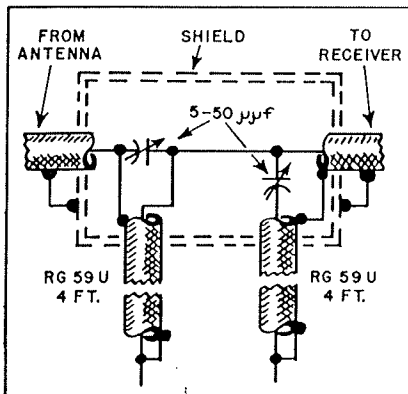

Figure D-3.
6. Remove the short across the antenna input terminals and reconnect the antenna. Check for any remaining interference. If interference is still present, install a trap at the antenna input. If copper screening has been installed, the trap should be mounted inside of the Teleset. The circuit of a suitable trap is shown in Figure D-3. The trap consists of two 4-foot lengths of coaxial cable each wound in the form of a spiral and attached, one on top of the other, to a piece of